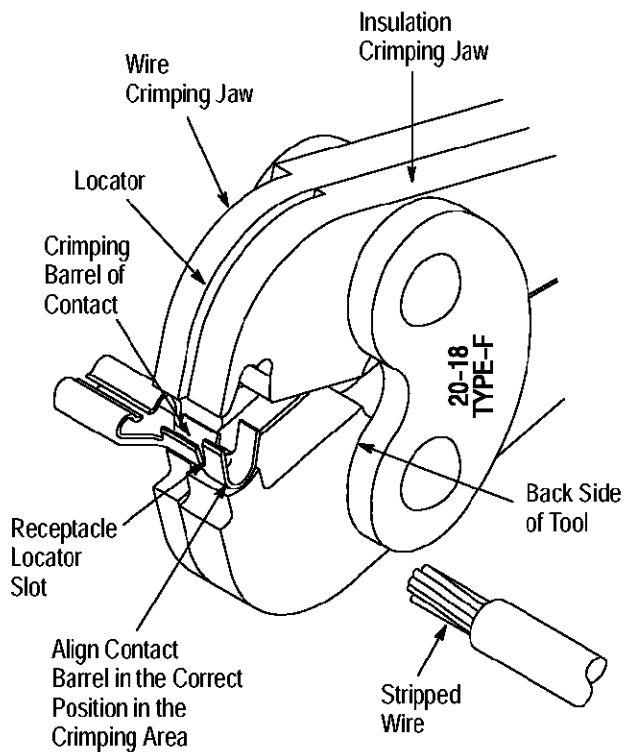

Figure 3
3. Insert contact barrel into the crimping area as shown in Figure 3. Make sure the tool locator enters the receptacle locator slot.